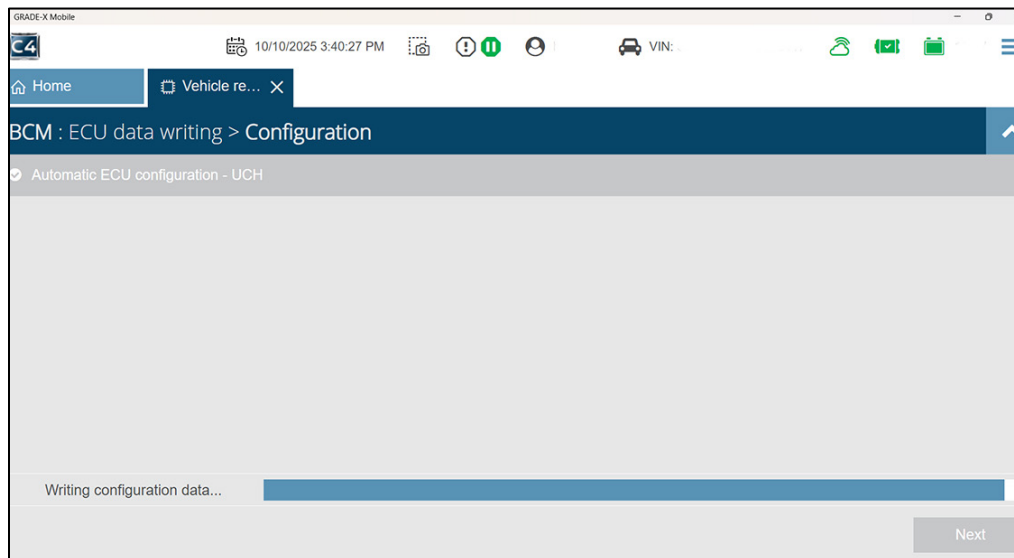

Figure 15
19. Allow the configuration to complete (Figure 15).